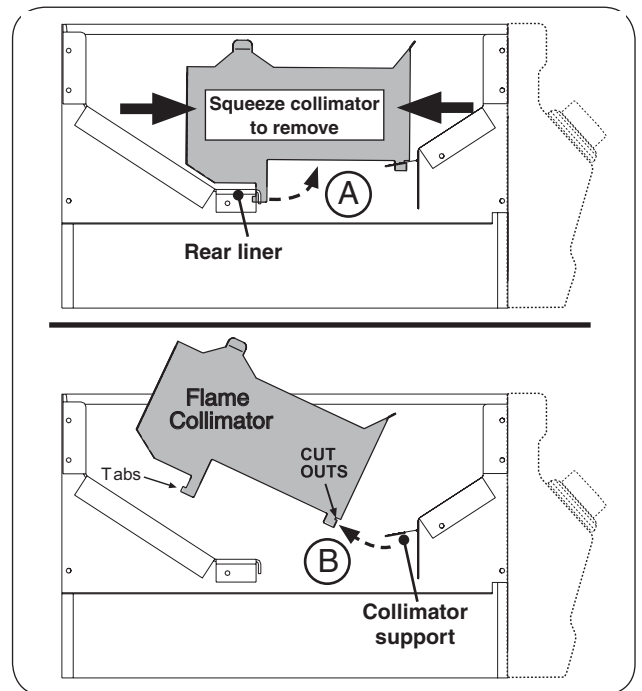

Fig. 29-2 Flame collimator removal
2. Squeeze the collimator to detach the rear tab from the rear liner as shown in Fig. 29-2, A, and lift up the rear portion of the collimator.
3. Detach the collimator from the front collimator support and completely remove the collimator as shown in Fig. 29-2, B.